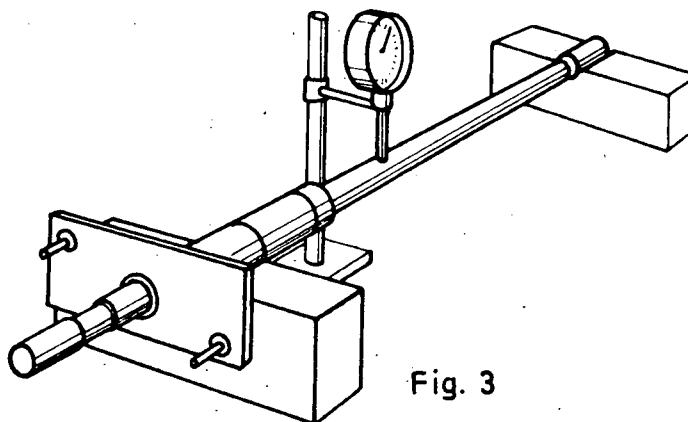

Fig. 3
g) Check the alignment of the distributor shaft with a dial gauge (fig. 3).